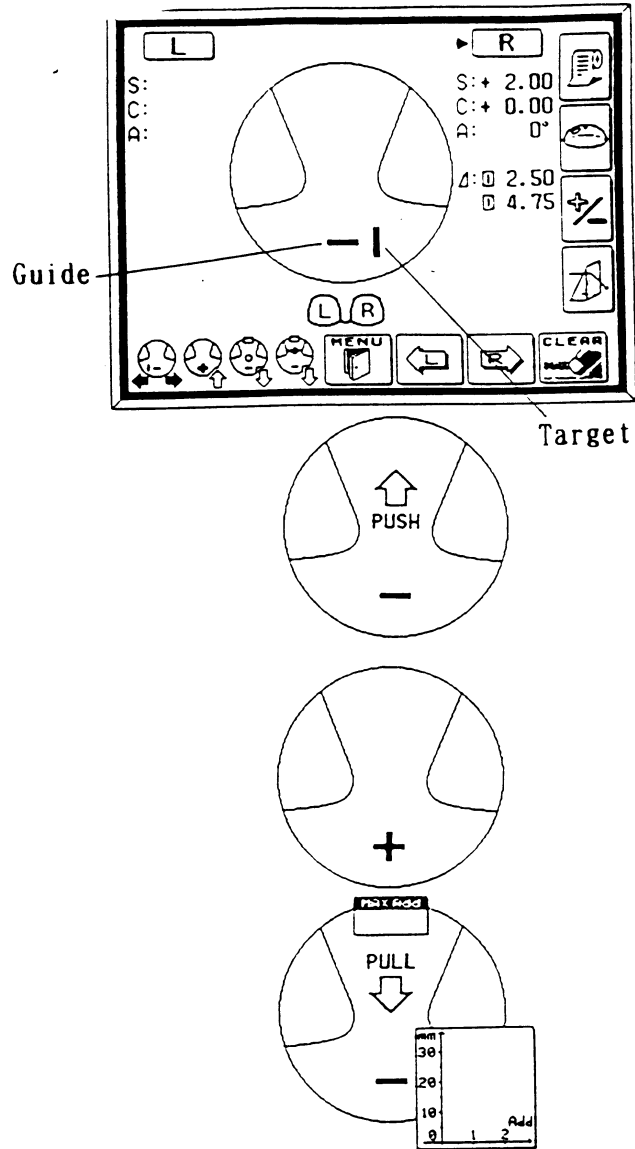

Figure 3-3. Measuring the lens
1. Press the PPL mode button (the second button on the right hand side of the display screen). Four lens graphics will appear on the bottom left hand side of the LED screen to indicate that you are now in the PPL mode (Figure 3-3).
4. Align the target (vertical line) by moving the lens sideways so that the target is brought to the middle of the guide (horizontal line) (Figure 3-3).
5. When the target is within an acceptable range, the "PUSH" sign with an up arrow will appear and the target line will disappear (Figure 3-3).
6. Push the lens forward slowly until the target changes to a plus sign (Figure 3-3).
7. When the distance value is stable, a small beep sounds and the "PULL" sign with a down arrow appears (see Figure 3-3).